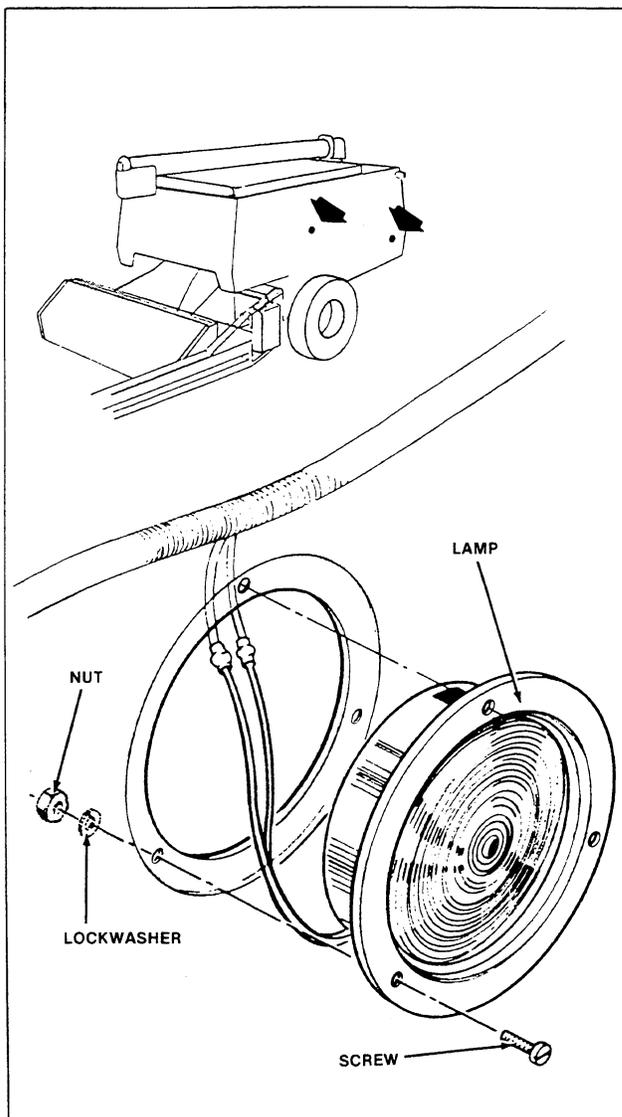

FIGURE 2-7: Taillight
1. Remove screws securing lens to lamp body. Remove lens (Figure 2-7). Replace lens if necessary.